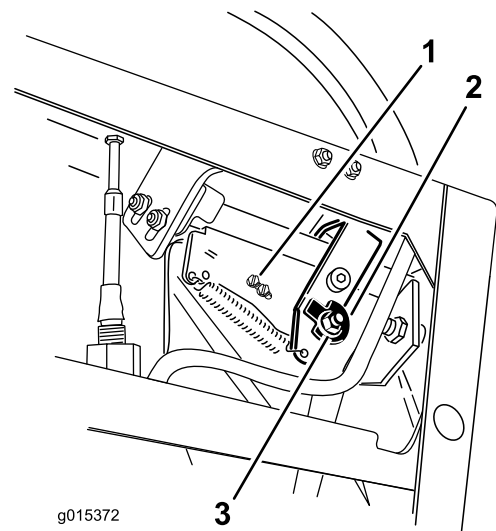
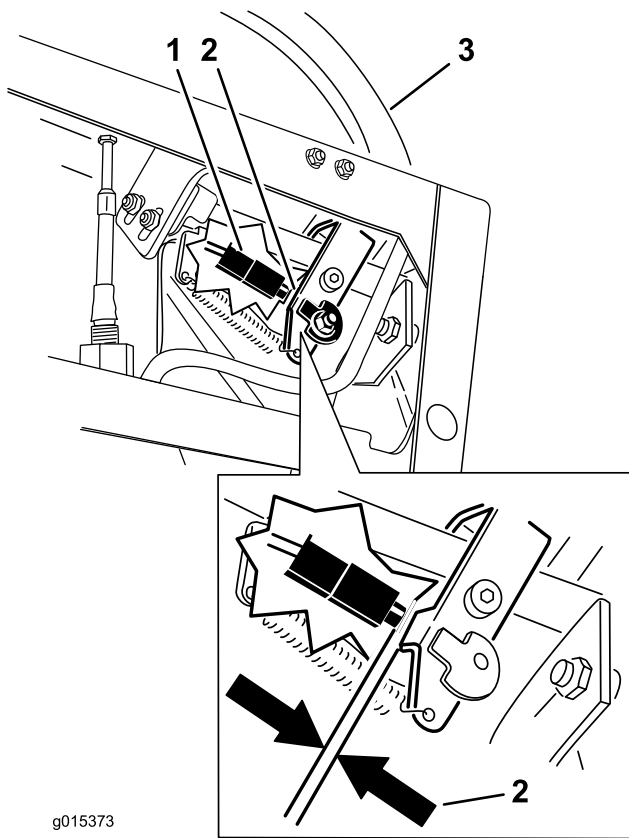

Figure 72
Figure 73
10. Check the gap between the control lever and switch as shown in Figure 73. The gap needs to be an 1/8 inch (3mm) with the right motion control lever in the neutral, unlocked position.
11. If needed, loosen the screws holding the switch and adjust the switch (Figure 72 and Figure 73).
7. Loosen the nut and bolt holding the cam (Figure 72).